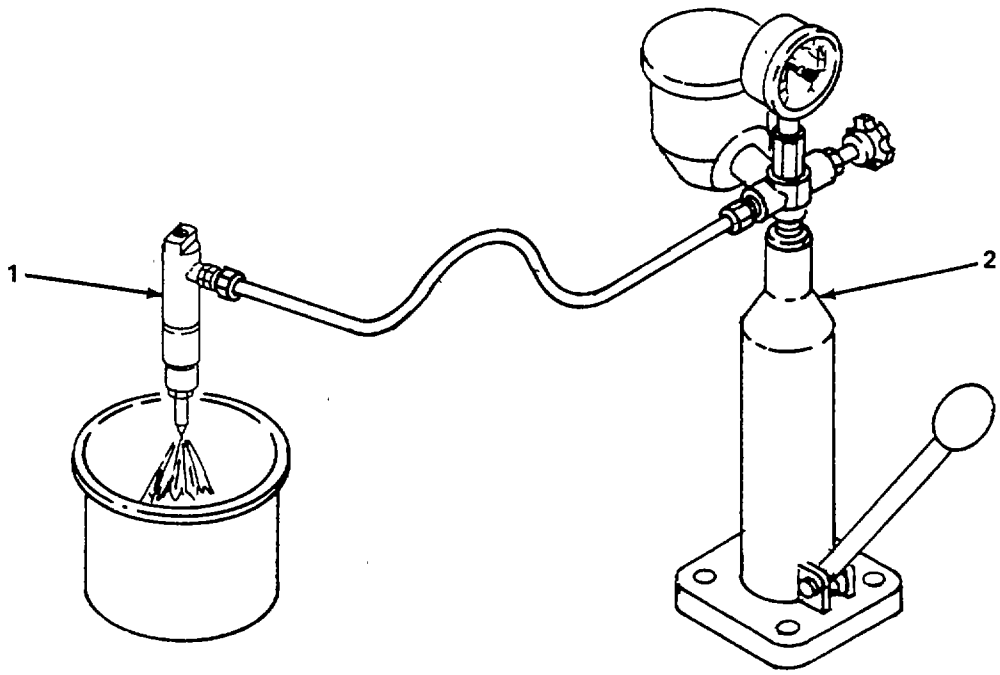

Figure 5-37. Fuel Injector, Test.
- a. Test. (figure 5-37)
- (1) Remove fuel injector (para. b.).
- (2) Connect fuel injector (1) to tester (2).
- (3) Place drip pan under injector (1).
- (4) Close tester valve.
- (5) Pump the tester until the fuel injector (1) opens and sprays fuel.
- (6) Observe the pressure at which fuel injector (1) opens. Pressure should be 2845 psi (19616 Kpa).
- (7) Replace fuel injector (1) if pressure required to open fuel injector (1) is higher than 2845 psi (19616 Kpa).
- (8) Pump the tester to 2551 psi (17589 Kpa) and hold for 10 seconds. If pressure drops steadily or injector leaks, replace injector.
- (9) Open valve, remove injector from tester.
- (10) Install fuel injector (para. b.).